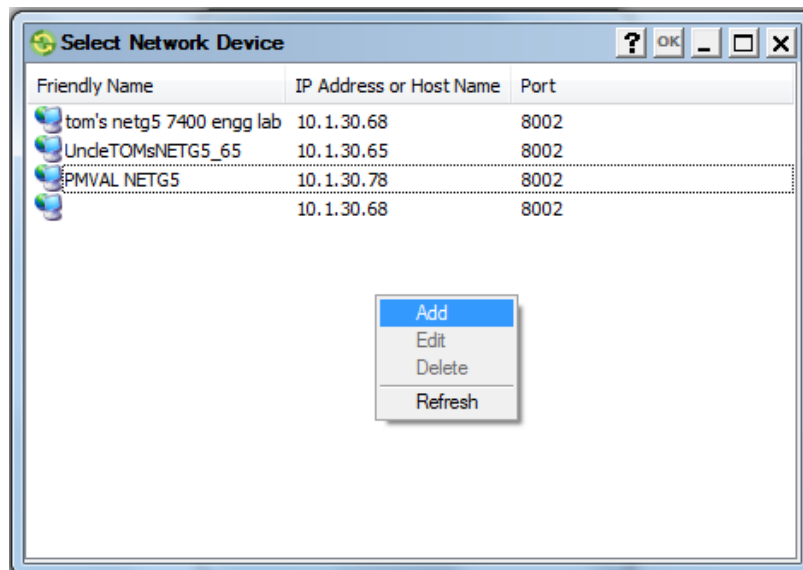

Figure 12: Select Add to Add a Device
- Right-click in the **Select Network Device** screen, and click **Add** (Figure 12). The **Network Connection** screen appears.